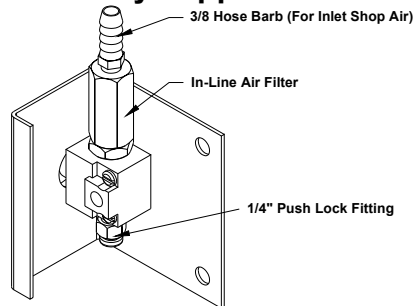

Fig. 8
21. **The shop air supply must be clean, dry, lubricated, and regulated to 90-120 psi.** The air supply must run through a Filter/Regulator/Lubricator (FLR) within 30 feet of factory assembled air valve. **Failure to provide clean, dry lubricated and pressure regulated air will void warranty on pneumatic components.** Push 1/4" airline through the PVC chase beginning at the power unit. Connect the airline to the appropriate push lock fittings at each end. Refer to **Fig. 8**.